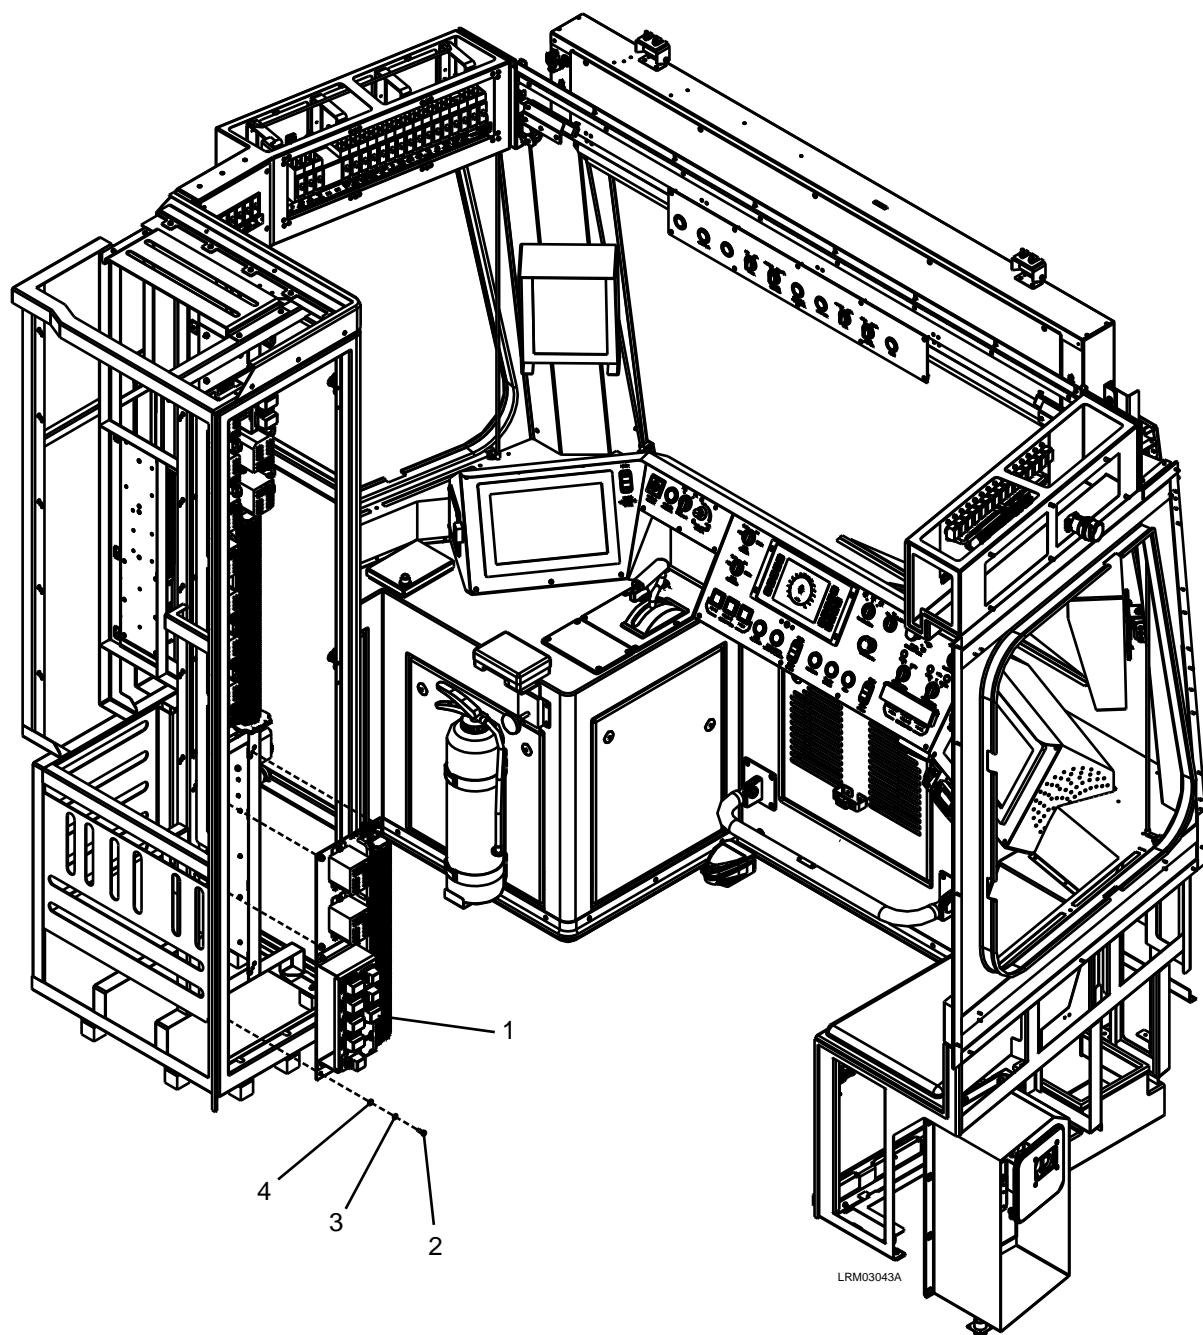

Figure 7-37: CRP4A and CRP4B Panel
2. Disconnect the WAGO terminal electrical connections to the CRP4A / CRP4B Panel (1). See Figure 7-37.
3. Remove the five M6 x 16 bolt (2), M6 lock washers (3), and M6 plain washers (4).
4. Carefully remove the CRP4A / CRP4B Panel (1).